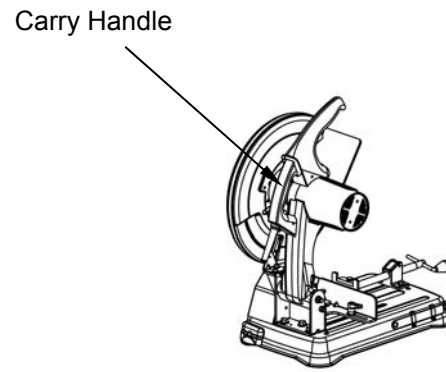

Fig.3
1. Remove the saw from the carton by lifting the saw with the carrying handle as shown Fig.3.